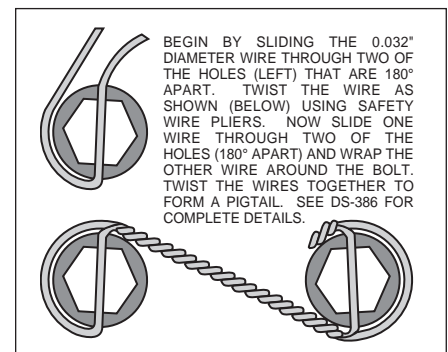

Figure 2. Safety Wire Diagram
- **NOTE:** When cross-drilled bolts are supplied with the rotor bolt kits, the additional step of safety wiring bolts is recommended. Safety wire bolts using standard 0.032 inch diameter stainless steel safety wire as shown in Figure 2. Please refer to Wilwood's data sheet DS-386 (available at www.wilwood.com/Pdf/DataSheets/ds386.pdf) for complete safety wire installation instructions.
- Install the axle clamp assembly (7, 8 and 9, pre-assembled) from the larger I.D. side of the rotor onto the rotor adapter (2) by sliding the eight studs through the corresponding eight holes in the rotor adapter (2) Secure from the other side using nut (10) and torque to specification.